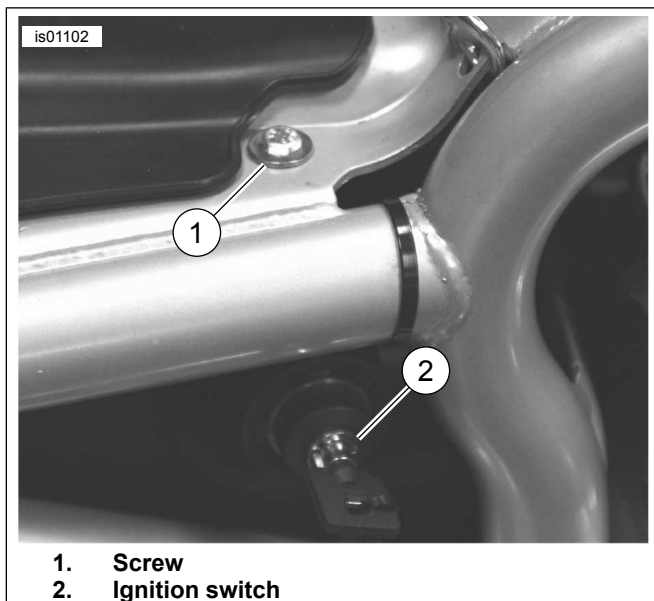

Figure 6. Ground Connection (2006 and Earlier V-Rod Models)
1. See Figure 6. Remove the screw (1, under the seat) that fastens the ignition switch (2) to the right side of the frame.